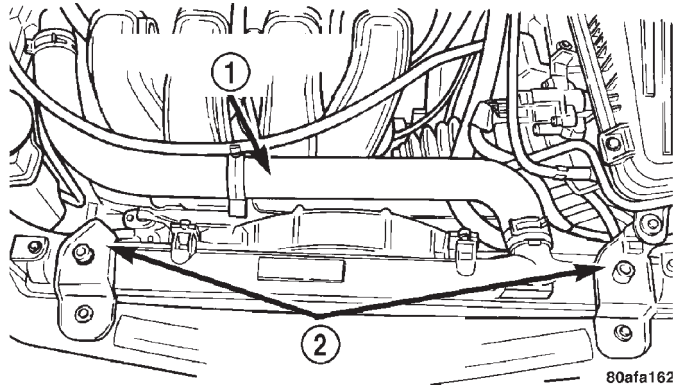
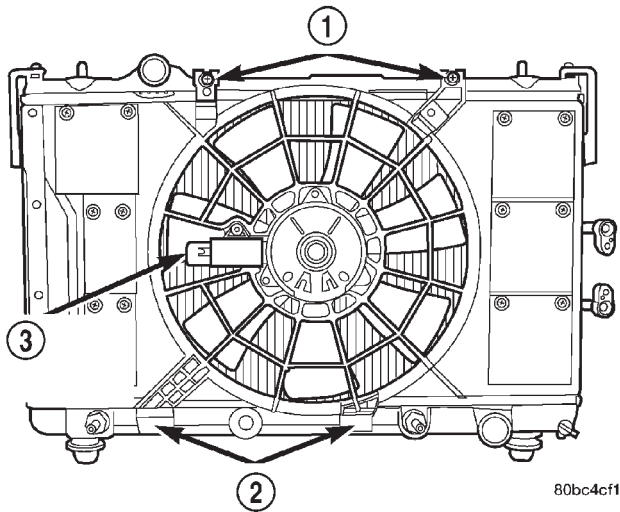

Fig. 27 Upper Radiator Hose
Fig. 28 Fan Module—Removal/Installation
- (1) Disconnect negative cable from battery.
- (2) Drain cooling system below upper radiator hose level. Refer to procedure in this section.
- (3) Remove upper radiator hose from radiator (Fig. 27).
- (4) Disconnect fan module electrical connector.
- (5) Remove fan module screws from radiator (Fig. 28).
- (6) Lift fan shroud up and out of lower shroud attachment clips.
- (7) Refer to Disassembly and Assembly in this section for fan module sub-component service procedures.
- (1) Install the fan module into the clips on the lower radiator tank.
- (2) Install the fan module retaining screws and tighten to 7.5 N·m (65 in. lbs.).
- (3) Connect fan module electrical connector. **For wiring diagrams of fan motor systems, refer to Group 8W, Wiring Diagrams.**
- (4) Install the upper radiator hose to radiator (Fig. 27). Align hose and position clamp so it will not interfere with the engine or the hood.
- (5) Connect negative cable to battery.
- (6) Fill cooling system. Refer to procedure in this section.